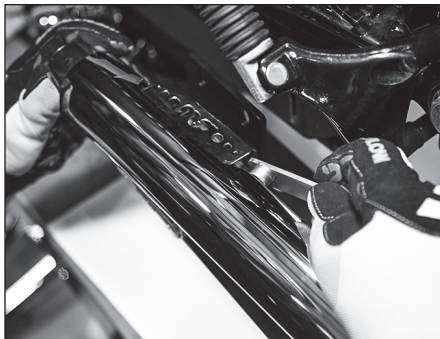

Fig 5
10. Insert the supplied nut plates into the muffler mounting braces and attach the mufflers to the new mounting bracket using the 3/8-16x0.625 bolts (Figure 5). Do not tighten at this time to allow for adjustment.